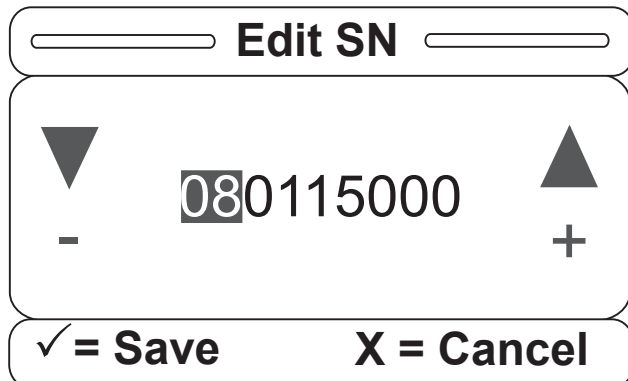

Figure S-21
21. If the Edit SN item is selected, the screen in Figure S-21 will be displayed to the user.